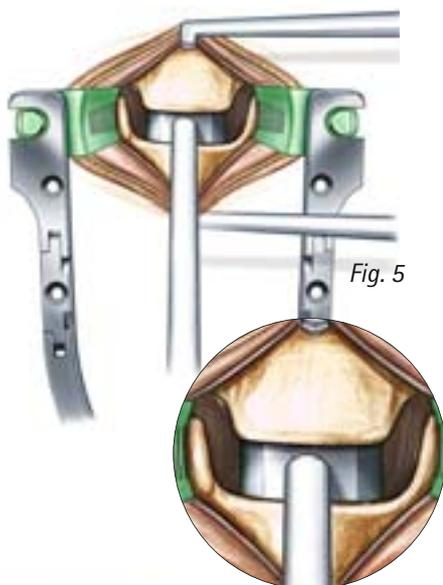

Fig. 5
- ★ The correct implant size can be established using the trial implants (Fig. 5).